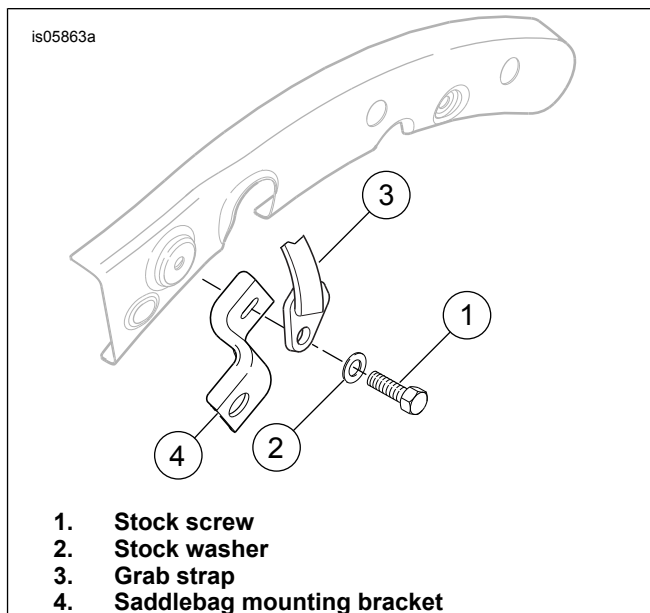

Figure 7. Remove and Install Grab Strap
- a. See Figure 7. Remove the left side screw (1) and washer (2). Remove the bracket (4) and passenger grab strap (3).